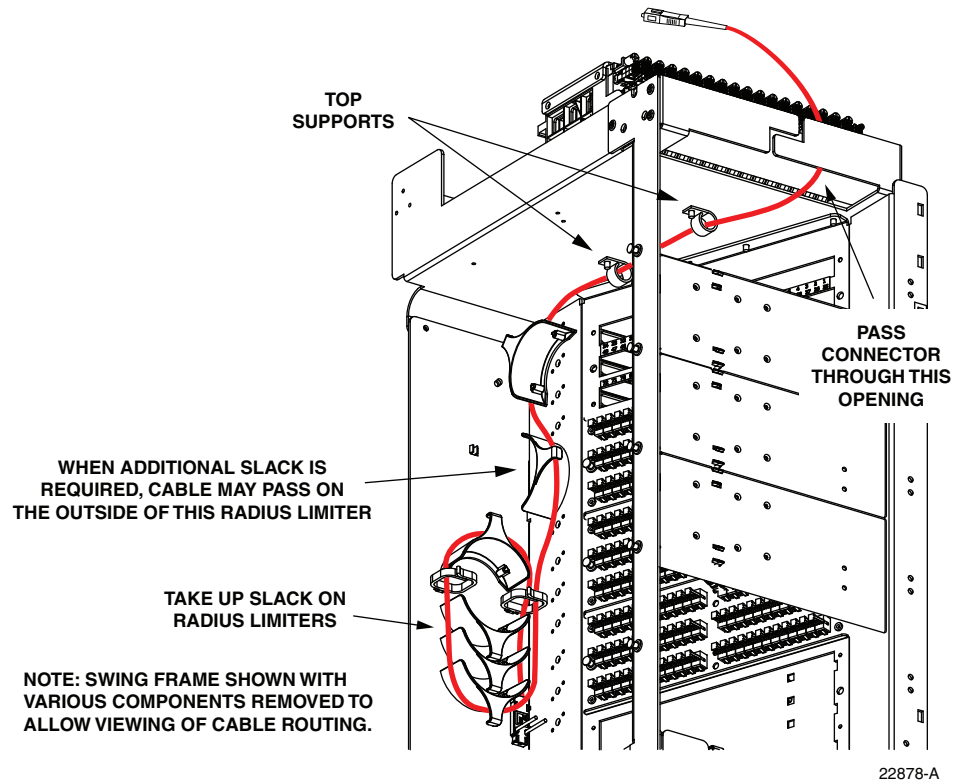

Figure 58. Re-Routing the Feeder Cable Fiber
7. When the feeder cable connector and fiber are free, pass the connector through the opening located behind the splitter compartment as shown in Figure 58.